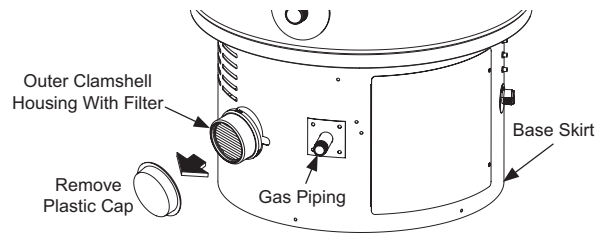

Figure 12. Remove Plastic Cap
- Maximum of 6 elbows may be used per pipe. Use only short or long sweep elbows. See Figure 12 for details.
- Remove and discard the plastic cap from the outer clamshell housing. See Figure 12.